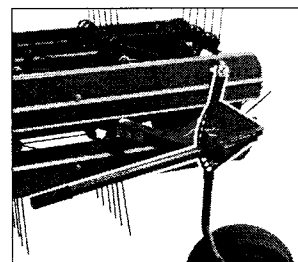

Fig. 5
- each one of the supporting wheel has got a lever for the height adjustment above ground level on the right or left side of the machine (fig. 5).